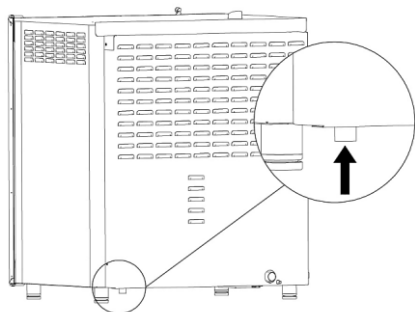

Fig. 4
- Fix the included water supply hose to the appliance's connection element (3/4"). The connection is located under the appliance, to the right (Fig. 4).